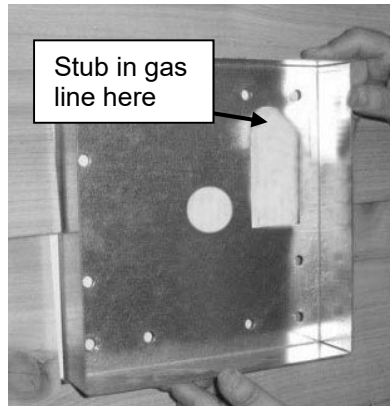

Figure 1
1. Make sure adequate framing is provided behind the wall to support the weight of the lantern. Install the wall plate template in the desired location using the (4) included lag bolts. This template will help locate where the gas line and electrical will penetrate the wall (see Figure 1).